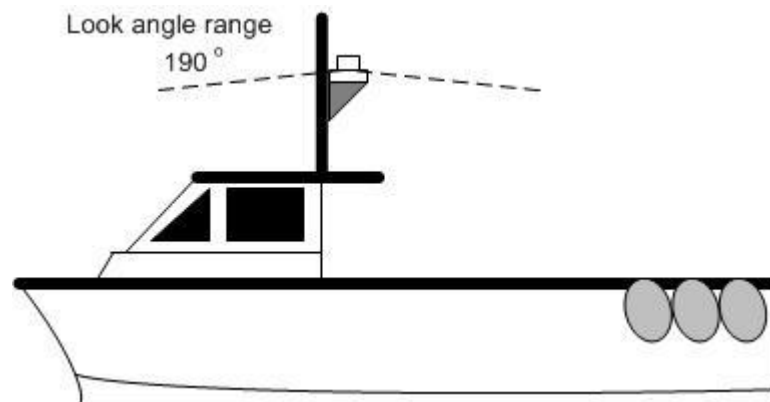

Figure 2: Transceiver mounting and look angles
- To help minimise obstructions within the look angle range (see Figure 2) you can apply the following rule to ensure that the obstruction covers no more than 2 degrees arc: